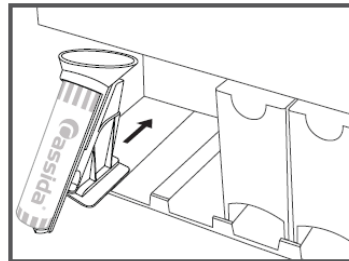

Figure 3 - Installing coin tube
4. Secure the coin tubes to the C300 by gently sliding each tube into the proper slot at the base of the machine as shown in Figures 3 and 4.